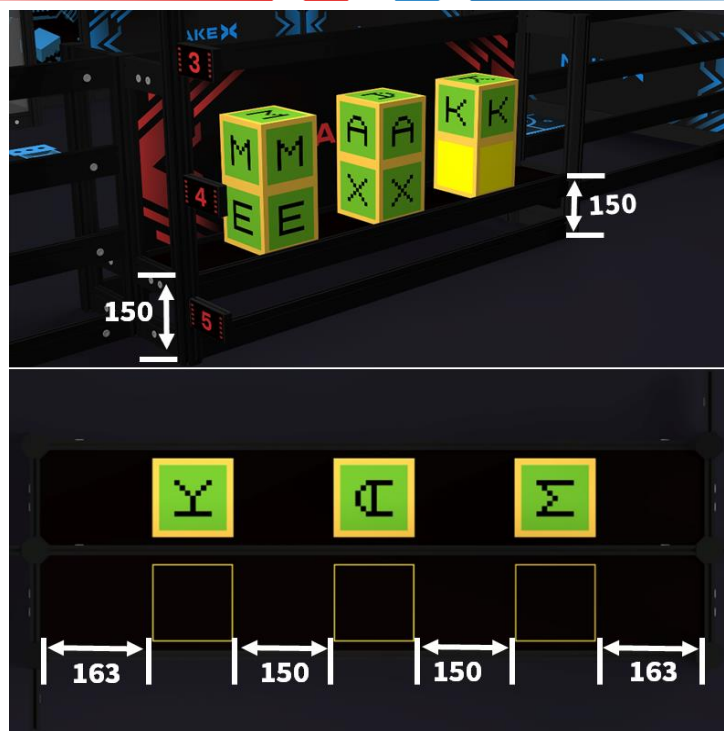

Fig 3.8 Production Platform
(5) Production Platform: Each Side has one production platform. The Alphabet Cubes and the Blank Cubes are initially placed on these platforms before the start of the match (Before each match, the Referee randomly confirm the arrangement order.) The vertical height of the platform from the Ground is 150 mm, and the cube placement position is shown in figure 3.8.